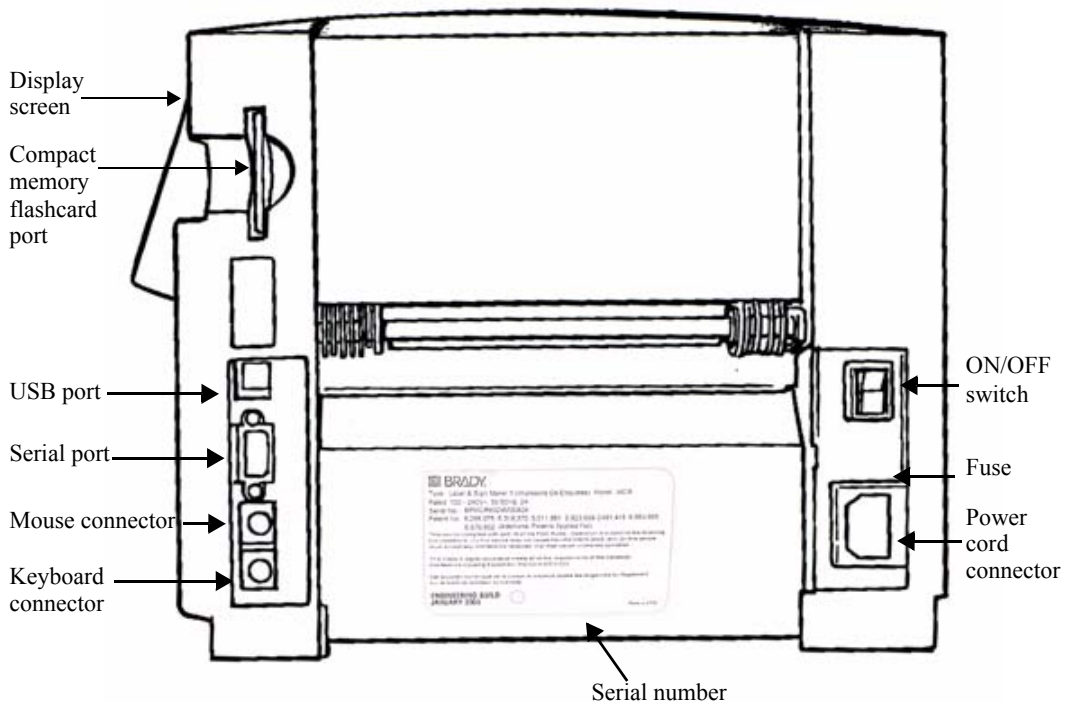

Figure 2-1. The label printer, side view.
- Step 2:** If you have a mouse, plug the mouse cable into the mouse connector, as shown in Figure 2-1
Step 3: Plug the power cord into the printer as shown in Figure 2-1. Plug the other end of the cord into an AC power outlet.